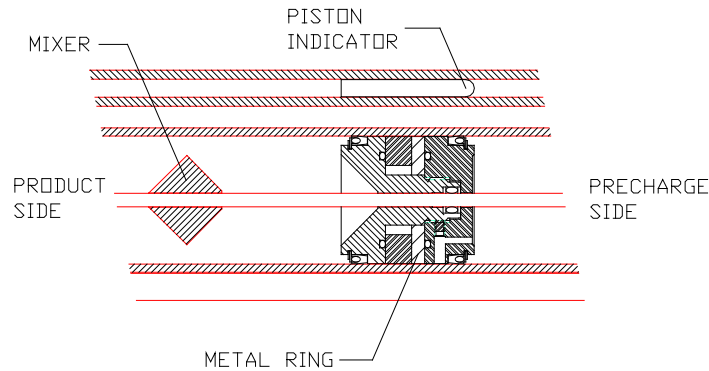

Figure 1
2.3.6 These cylinders are equipped with an external magnetic indicator (see Figure 1), which shows the location of the piston inside the cylinder. The cylinder has an indication of “0%” for empty and “80%” for when the cylinder is filled to 80% of its capacity. Close the pre-charge valve, then the product inlet valve quickly when the tip of the magnetic tracker reaches the 80% mark. This allows for a 20% cushion for possible expansion due to temperature changes.
- 2.4.5 These cylinders are equipped with an external magnetic indicator (see Figure 1), which shows the location of the piston inside the cylinder. The cylinder has an indication of “0%” for empty and “80%” for when the cylinder is filled to 80% of its capacity. When the tip of the magnetic tracker reaches the 80% mark, the continuous sampling should be stopped. The pre-charge and the product inlet valve should then be closed. This allows for a 20% cushion for possible expansion due to temperature changes.